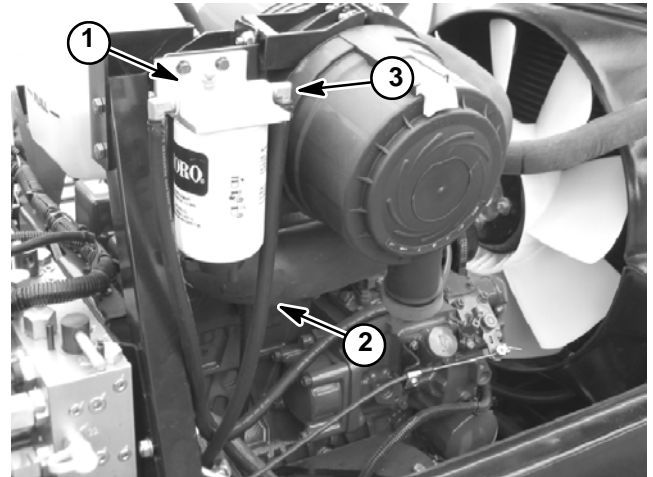

Figure 53
5. Disconnect fuel pump discharge hose from the fuel/water separator inlet fitting (Fig. 53).
7. Collect fuel in the graduated cylinder by turning ignition switch to the ON position. Allow pump to run for fifteen (15) seconds, then turn switch to OFF.
8. The amount of fuel collected in the graduated cylinder should be approximately 16 fl oz (475 ml) after fifteen (15) seconds.